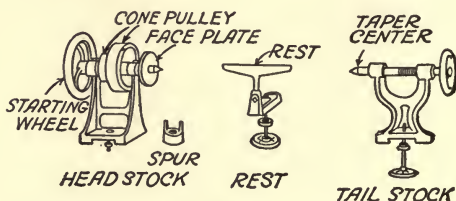

FIG. 16. THE CHIEF PARTS OF A TURNING LATHE
sists of four principal parts, and these are (1) the *headstock*; (2) the *rest*; (3) the *tailstock*; (4) the *bed* and (5) the *stand*, the first three parts of which are shown in Fig. 16.